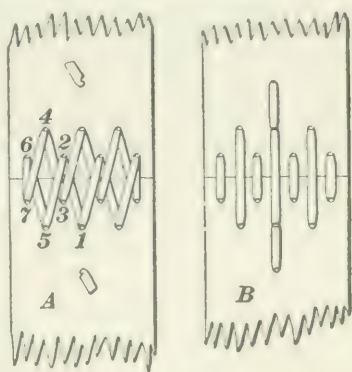

FIG. 17.
35. For belts wider than 3 inches, the lacing shown in Fig. 17 is a good one. As will be observed, there are two rows of holes. The number of holes in the row nearest the joint should exceed by one the number of holes in the second row. For belts up to $4\frac{1}{2}$ inches wide, use 3 holes in the row nearest the joint and 2 holes in the second row. For belts up to 6 inches wide, use 4 and 3 holes, respectively. For larger belts, make the total number of holes in each end either one or two more than the number of inches of width, with the object of getting an odd total number of holes. For example, for a 10-inch belt, the total number of